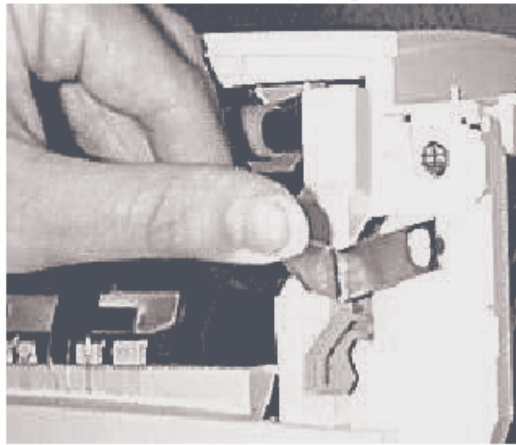

Figure 5. Line Up Bracket Holes
4. Line up the bracket holes to the back of the printer as shown in Figure 5.